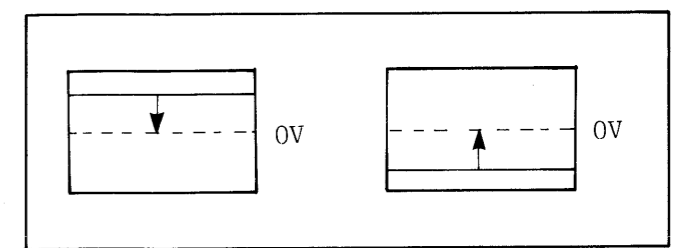

Fig. 30
- Adjust DCO LFO OFFSET VR3 so that the horizontal line rests on the GND potential. (Fig. 30)